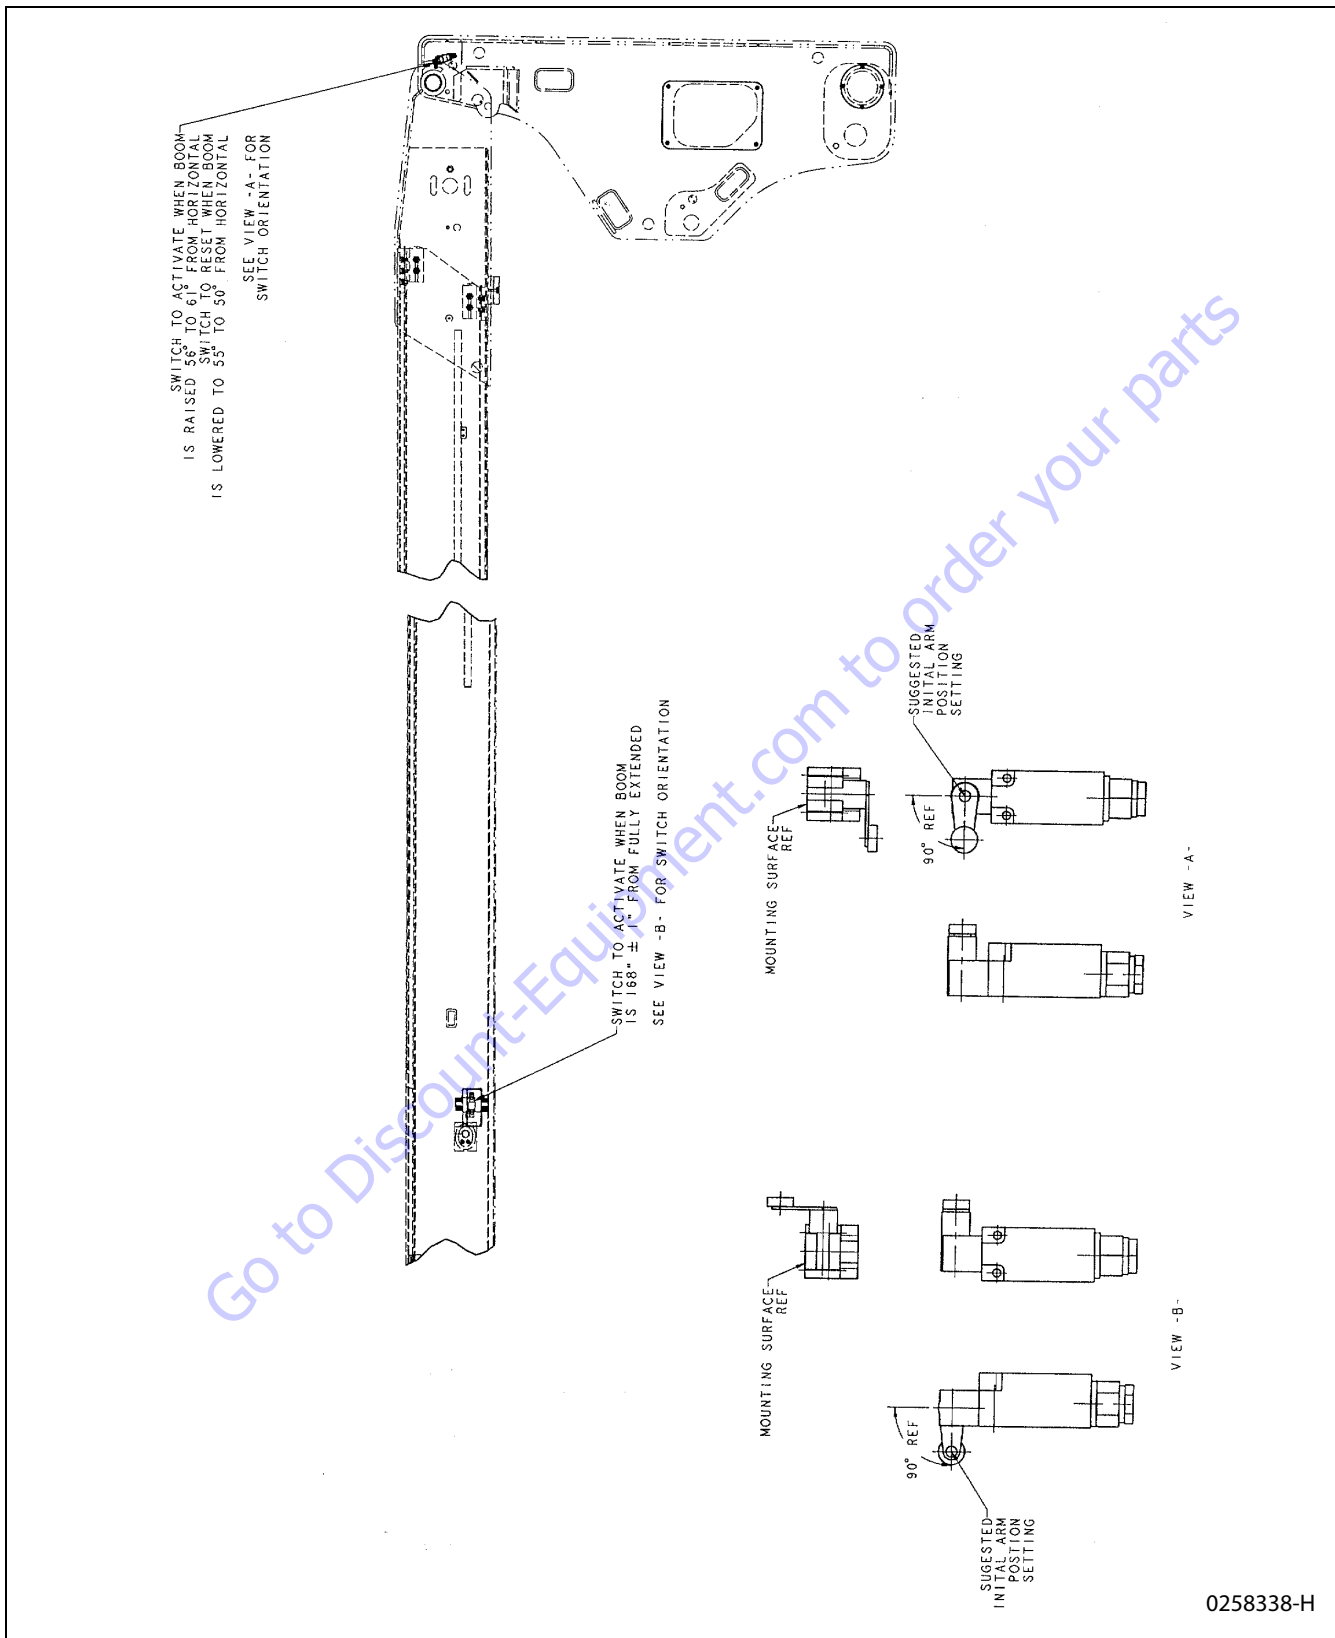

Figure 4-21. Dual Capacity Switches Installation (800 Only if equipped)
3. Lower upper boom until limit switch resets. This should be 1 degree above to 4 degrees below horizontal. (See Figure 4-21. for adjustments)
4. The Dual Capacity Limit Switch, located at the telescope cylinder of the Upper Boom, Figure 4-21., will activate the 1000 lb. light when the upper boom is at 56 to 61 degrees.